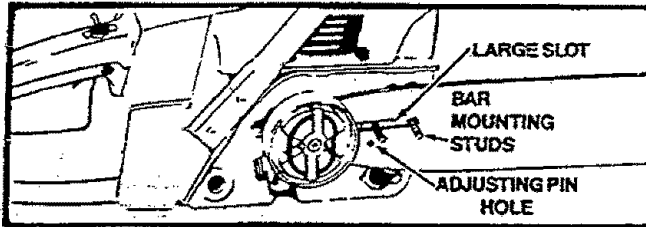

Figure 8
2. Position the guide bar with the round hole below the large slot. Figure 8.
3. Mount the slotted end of the guide bar over the bar mounting studs and the small round hole on the adjusting pin. Figure 8.